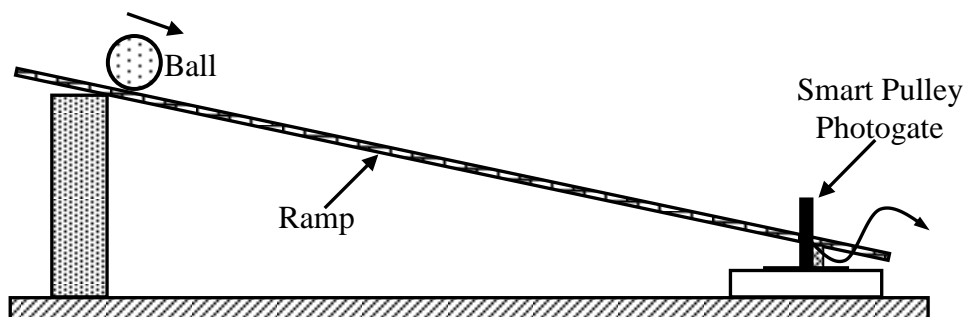

Figure 11.2: Equipment Setup
1. Set up the apparatus as shown in Fig.11.2. Connect the Smart Pulley photogate to your computer, and start up the computer.